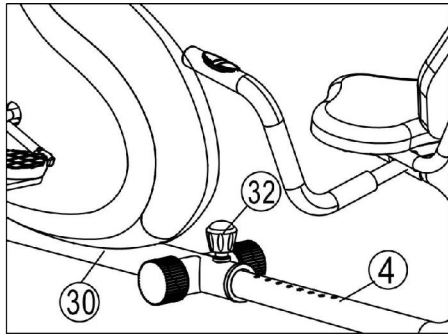

Figure 8
Release and pull the Round knob (32) and then insert the Seat cushion adjustor (4) into the tube of Main Frame (30). Adjust the Seat cushion adjustor tubing (4) to the desired hole for the appropriate position and tighten the Round knob (32) after adjustment. (See figure 8)